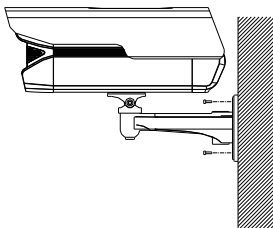

Figure 2-5 Fix the Camera
3. Secure the camera to the wall mount with screws as shown in Figure 2-5.